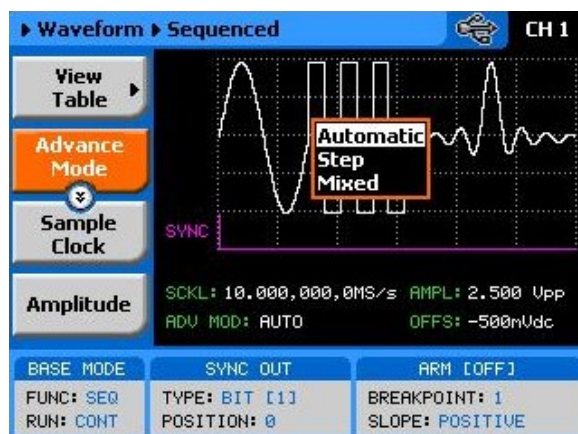

Figure 3-20, Sequence Advance Options
1. Refer to Figure 3-20 and select the Advance Mode with the appropriate soft key. The advance mode options, as shown in Figure 3-20 will display. Use the dial or arrow keys to scroll down to the required mode and press Enter to lock in the selected mode.
The operating mode of the instrument, as selected from the Run Modes menu, affects the way that the 2572A lets you access the sequence advance mode parameter. If you are in continuous mode, as shown in Figure 3-20, you can select one of: AUTO, STEP, or MIXED. If you already selected the triggered run mode, you'll be able to select from AUTO, or SINGLE only as advance modes.